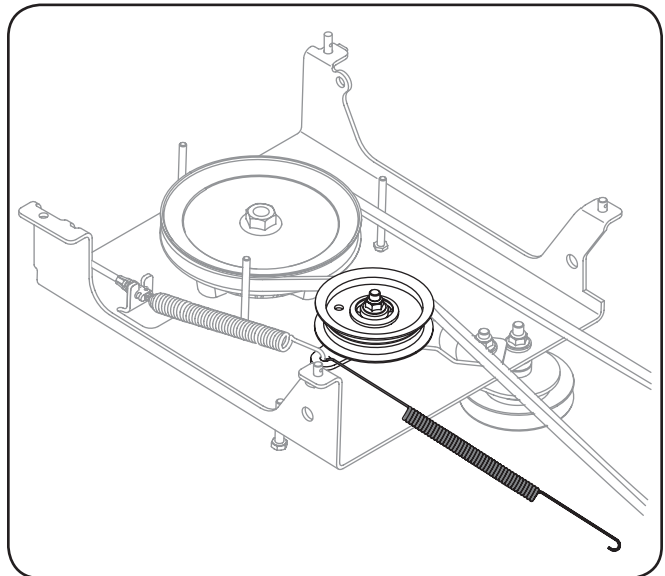
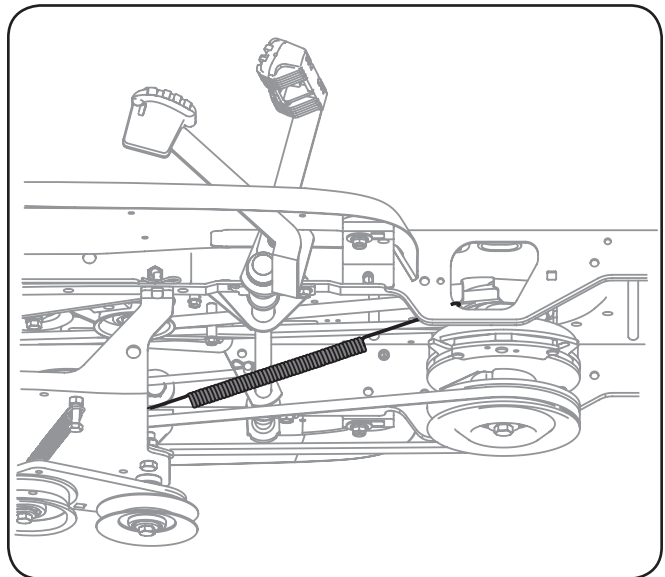

Figure 3-13
Figure 3-14
12. Attach one end of the long extension spring (found in the hardware pack) to the idler pulley bracket and the other end to the tractor's frame rail. See Figure 3-13 and Figure 3-14.